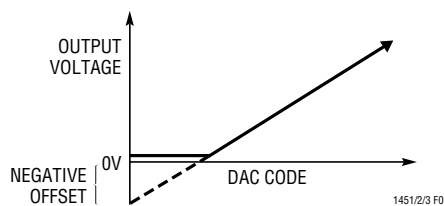

Figure 1. Effect of Negative Offset
**Voltage Offset Error ( $V_{OS}$ ):** Normally, DAC offset is the voltage at the output when the DAC is loaded with all zeros. The DAC can have a true negative offset, but because the part is operated from a single supply, the output cannot go below zero. If the offset is negative, the output will remain near 0V resulting in the transfer curve shown in Figure 1.